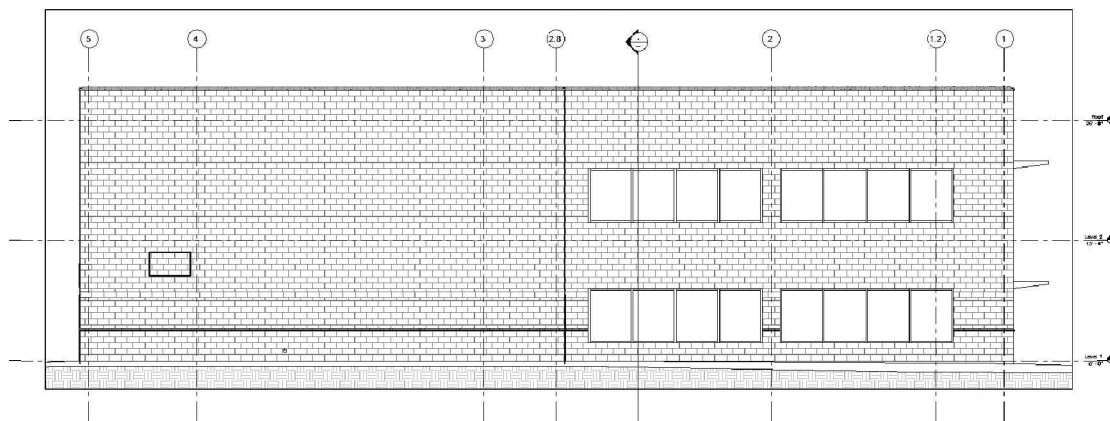

FIGURE 16-1.7 North exterior elevations
19. Adjust the *Crop Region* to be close to the building, as shown in Figure 16-1.7.